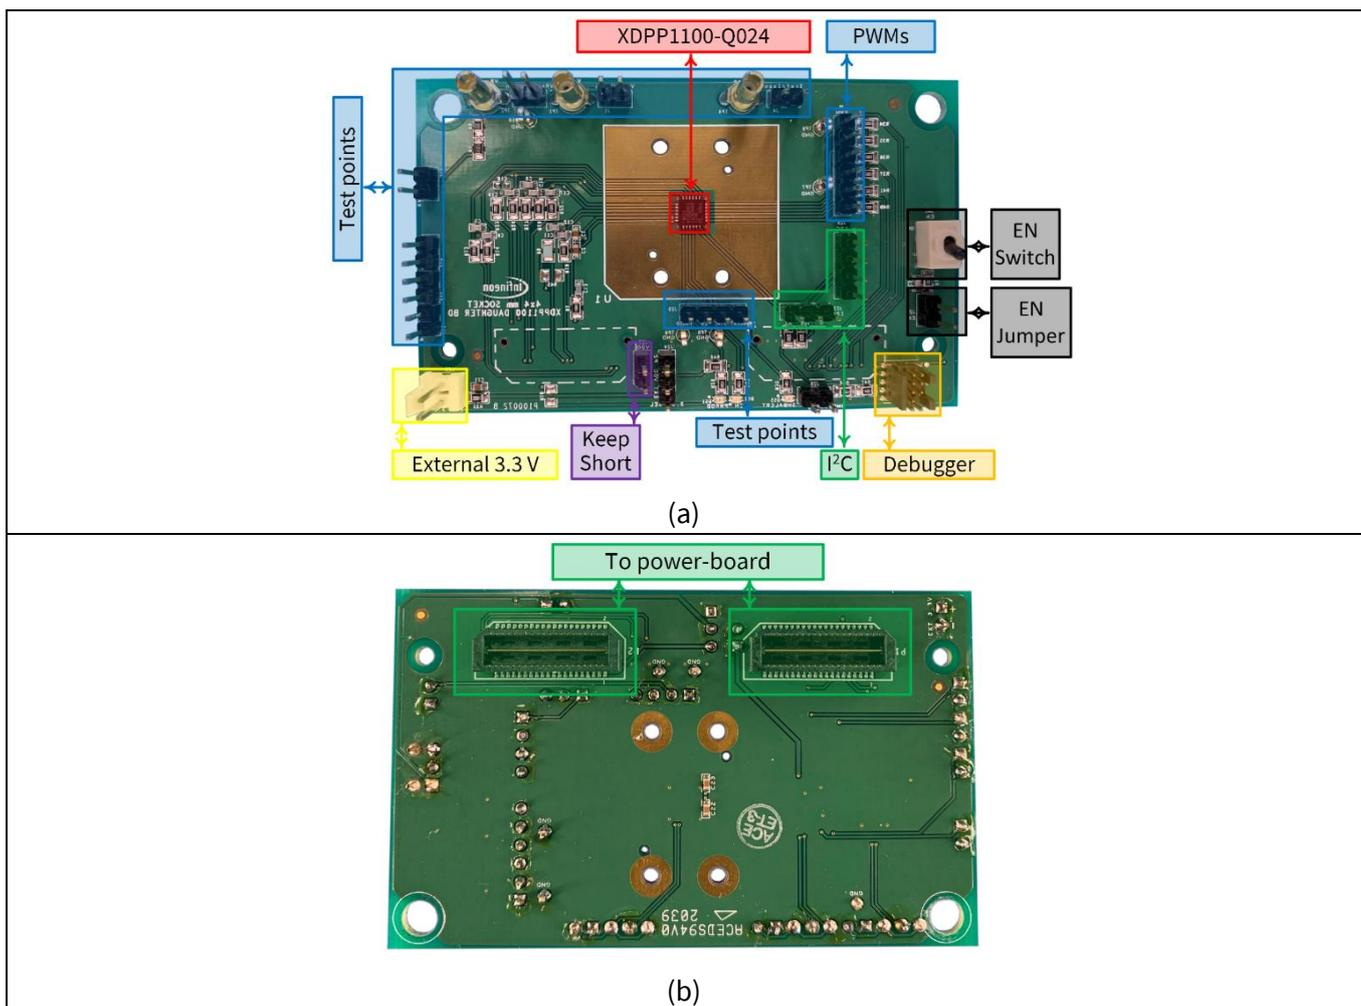

Figure 3 Daughterboard - a) top view, b) bottom view
The control stage of this evaluation kit is on the EVAL_XDPP1100_Q024_DB daughterboard (**Figure 3**). It includes the XDPP1100-Q024 digital controller, analog filters for processing feedback signals from the power board, PWM outputs, digital inputs and outputs, I²C connector, firmware (FW) debugger port for Lauterbach, and LED indicators. It can be supplied using an external 3.3 V DC source or from the power-board depending on the header J24 configuration (**Figure 3a**). The board-to-board rectangular header connectors are located on the bottom side of the EVAL_XDPP1100_Q024_DB daughterboard to connect to the power converter board (**Figure 3b**).